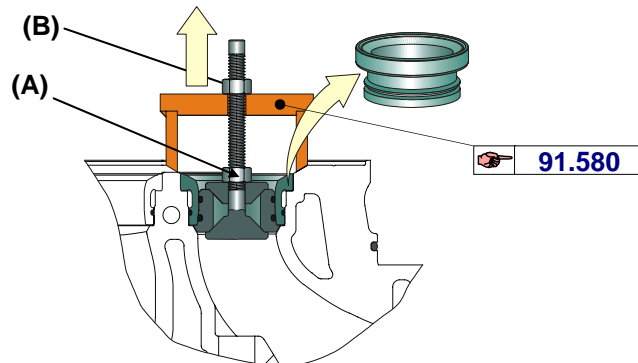

Fig. 1 Dismount valve seat ring by means of the tool (공구를 사용한 밸브 시트 링의 분해)
1. Mount the extracting tool (optional) **91.580** on the valve seat as shown in fig 1.
2. Clamp valve seat ring tightly by turning nut (A).
3. Extract the valve seat ring by turning nut (B).